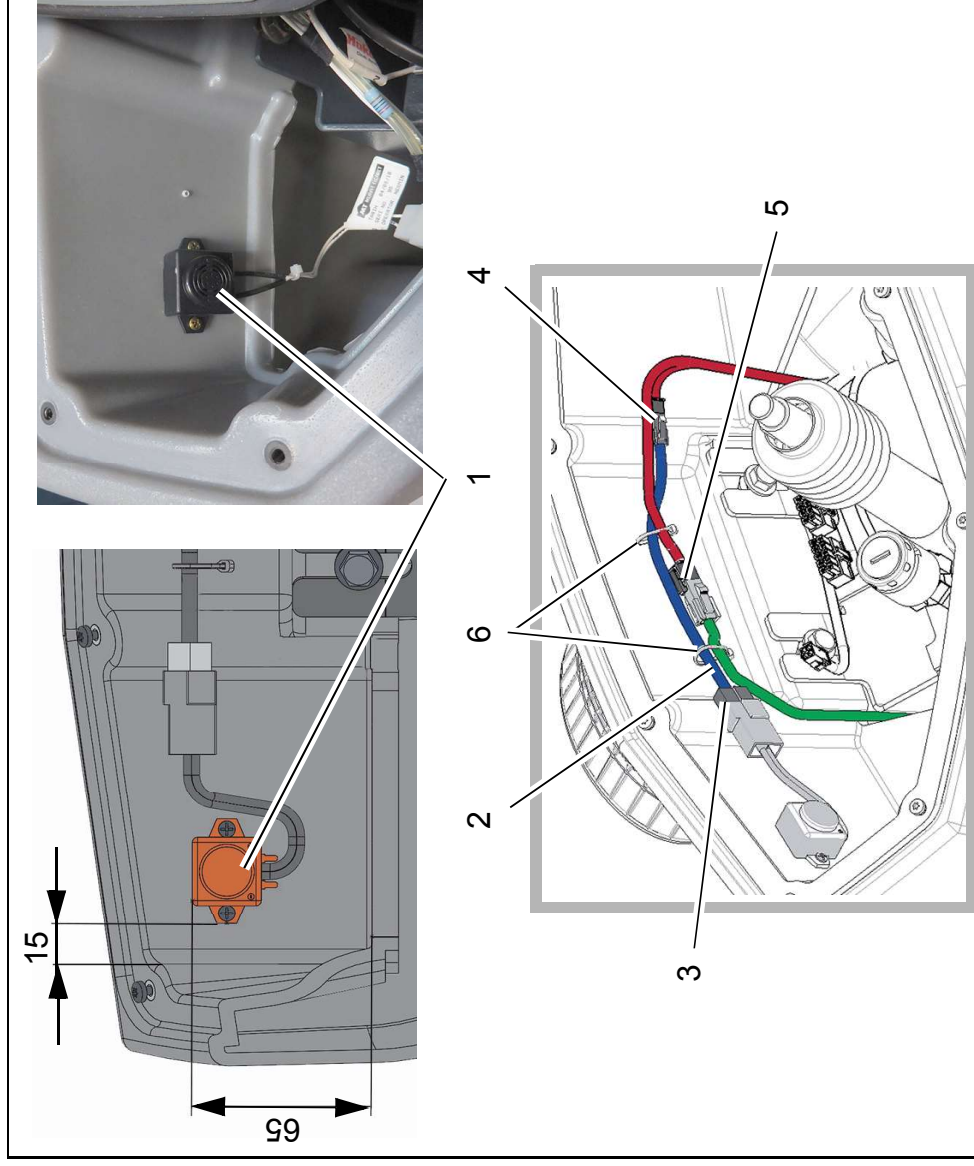

Fig.2
2. Fix the signal transmitter (Fig. 2/1) to the inside of the steering column with the two self-tapping screws.
Place the cable harness W69 (Fig. 2/2) in the steering tower as shown.
- signal transmitter P03 (Fig. 2/3)
- cable harness W3 X24 (Fig. 2/4)
Connect Blue Spot cable to connector X25 of harness W3 (Fig. 2/5).
Secure cable harnesses as shown with cable ties (Fig. 2/6).